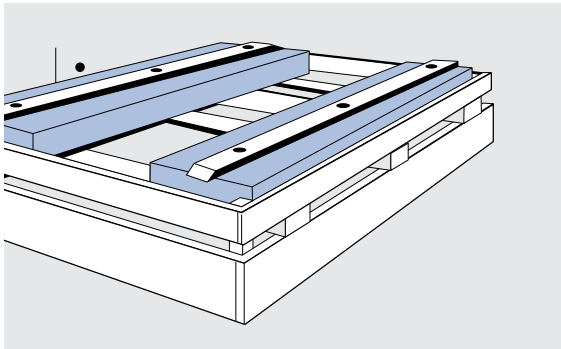

Figure 3: Attaching billets to bottom of dock
2. Consulting Figure 3, lay the **DuPont™ Styrofoam™ Brand Buoyancy Billets** across the cross ties. Place skids on the foam as shown. To connect the foam, drill six holes through the skids, foam, and the cross ties. Insert the long bolts and reach under the cross ties to apply washers and nuts.